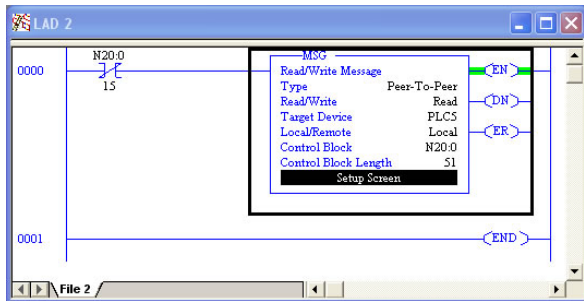

Figure 73: Completed PLC Program
7) The program is now complete. Refer to Figure 73.